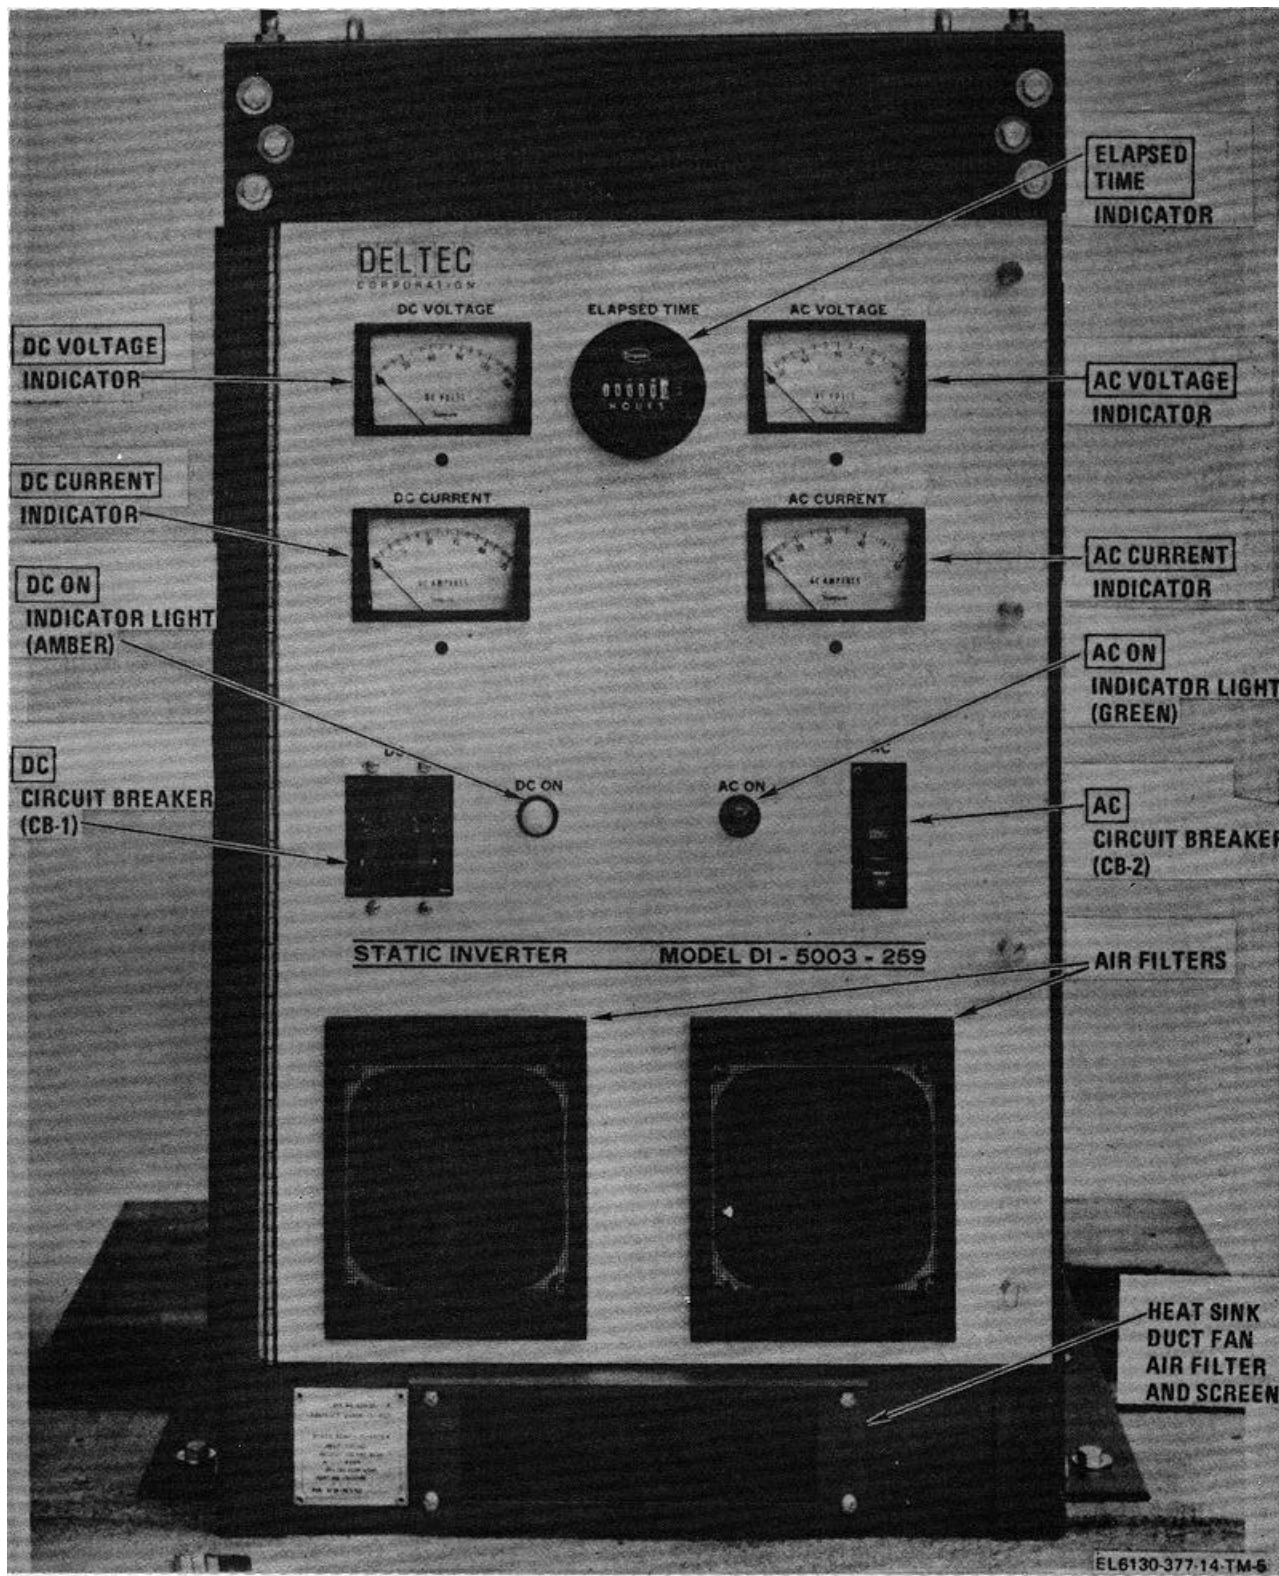

Figure 3-1. Controls and indicators.
a. *Operator's control panel (fig. 3-1).*
a. Single Inverter Starting Procedure. Refer to paragraph 2-4 for electrical installation of a single inverter in the system, and figure 3-1 for location of controls and indicators.
(1) Position DC circuit breaker to ON. Amber DC ON indicator lamp lights. Within 5 seconds the cooling fans should be operating.
(2) Position AC circuit breaker to ON. Green AC ON indicator lamp lights.
b. Parallel Inverter Starting Procedure. Refer to paragraph 2-4 for electrical installation of two inverters in parallel in a system, and figure 3-1 for location of controls and indicators.
a. Place hand over the three air filter screens (fig. 3-1) on the front panel and check that air is being sucked in through the filter.